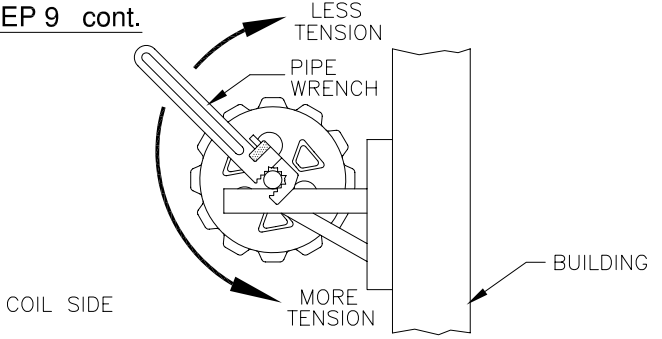

FIGURE 9
- 9C PLACE LARGE PIPE WRENCH IN POSITION SHOWN. LOOSEN AXLE SADDLES AND PULL DOWN FOR MORE TENSION, LET UP FOR LESS TENSION (FIGURE 9).